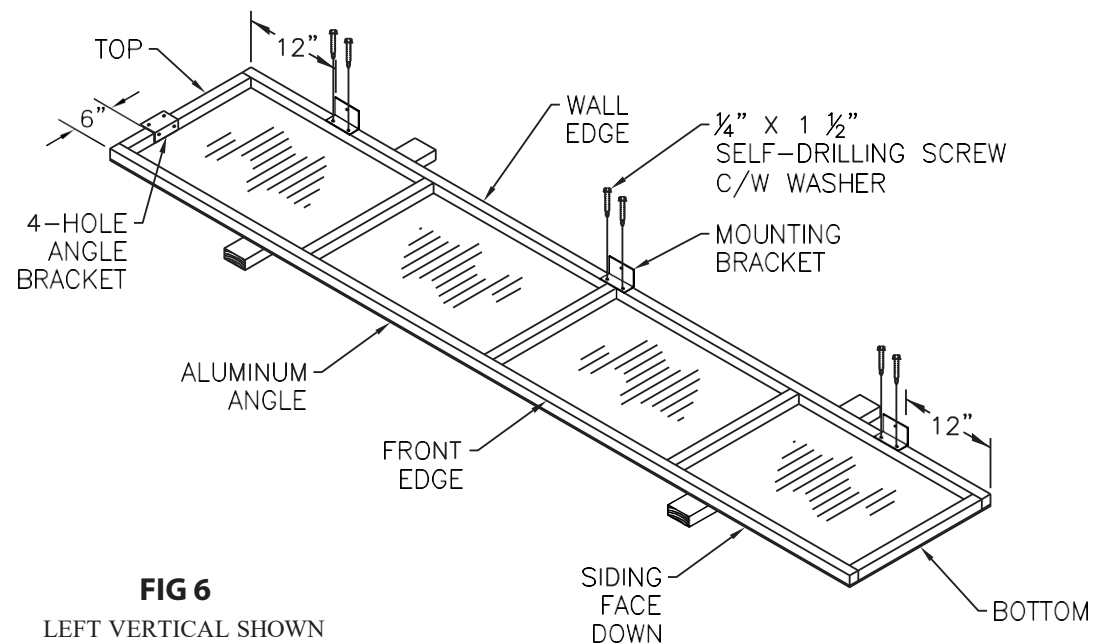

FIG 6
b. Position Mounting Brackets on Wall Edge of Vertical Frame (Figure 6).
- Use three (3) 3-hole Mounting Brackets per Vertical Frame.
d. Position 4-hole Angle Bracket on Vertical frame (Figure 6).